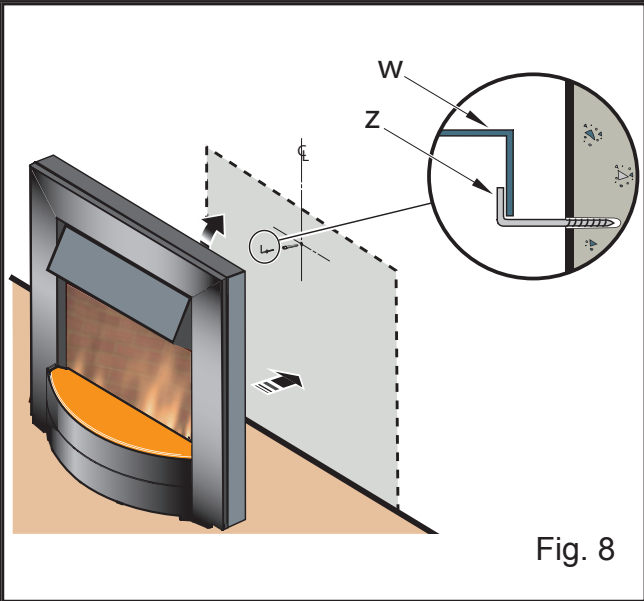

Fig. 8
4. Position the fire alongside the hook and then lift the fire up and over the hook so that the lip on the top spacer (W, Fig. 8) engages with the hook (Z, Fig. 8).